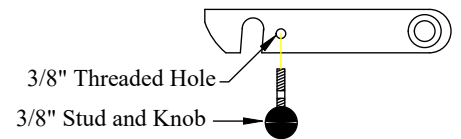

Figure 25: Original Series platform latch knob.
1. **Install** the two (2) knobs on the platform latches (Original Series only) see (Figure 25).
2. **Install** the two (2) square plastic insert nuts for the license plate into the square holes on the liftgate.
3. **Install** the license plate using the two (2) stainless steel screws provided.